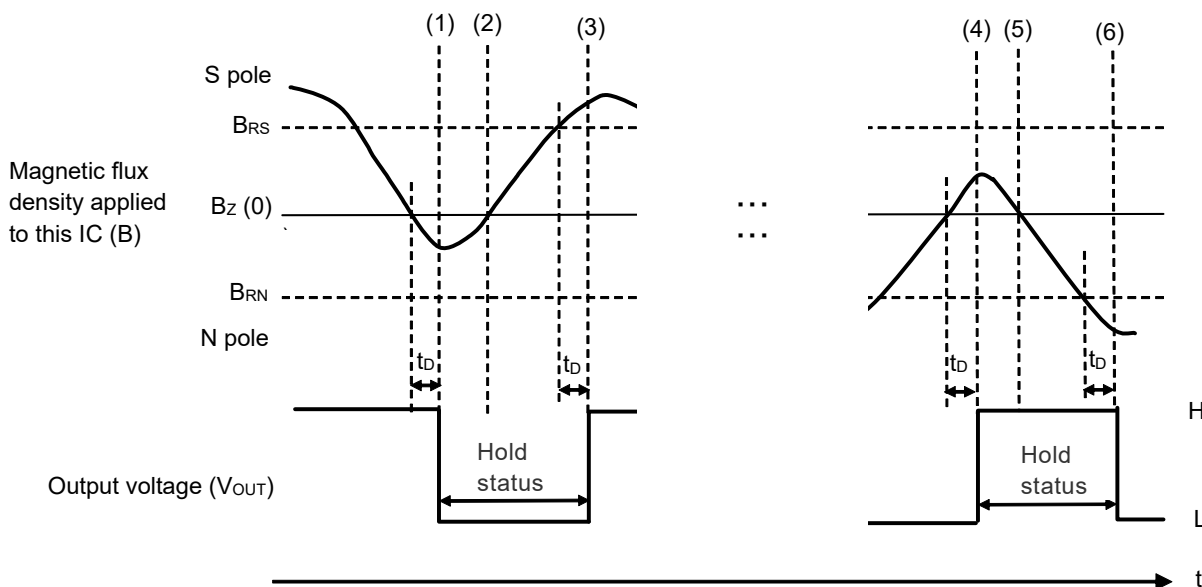

Figure 21 Product with  $V_{OUT} = "H"$  at S pole detection
**Figure 20** and **Figure 21** show the  $V_{OUT}$  operation timing when the polarity change direction is inverted.
- (1)  $B > B_z \rightarrow B < B_z$ , and after  $t_D$ ,  $V_{OUT} = "L" \rightarrow "H"$ , and Hold status starts
- (2) During Hold status, even after  $B < B_z \rightarrow B > B_z$ ,  $V_{OUT} = "H"$  is retained
- (3)  $B > B_z \rightarrow B > B_{RS}$ , and after  $t_D$ , Hold status is released, and  $V_{OUT} = "H" \rightarrow "L"$
- (4)  $B < B_z \rightarrow B > B_z$ , and after  $t_D$ ,  $V_{OUT} = "H" \rightarrow "L"$ , and Hold status starts
- (5) During Hold status, even after  $B > B_z \rightarrow B < B_z$ ,  $V_{OUT} = "L"$  is retained
- (6)  $B < B_z \rightarrow B < B_{RN}$ , and after  $t_D$ , Hold status is released, and  $V_{OUT} = "L" \rightarrow "H"$